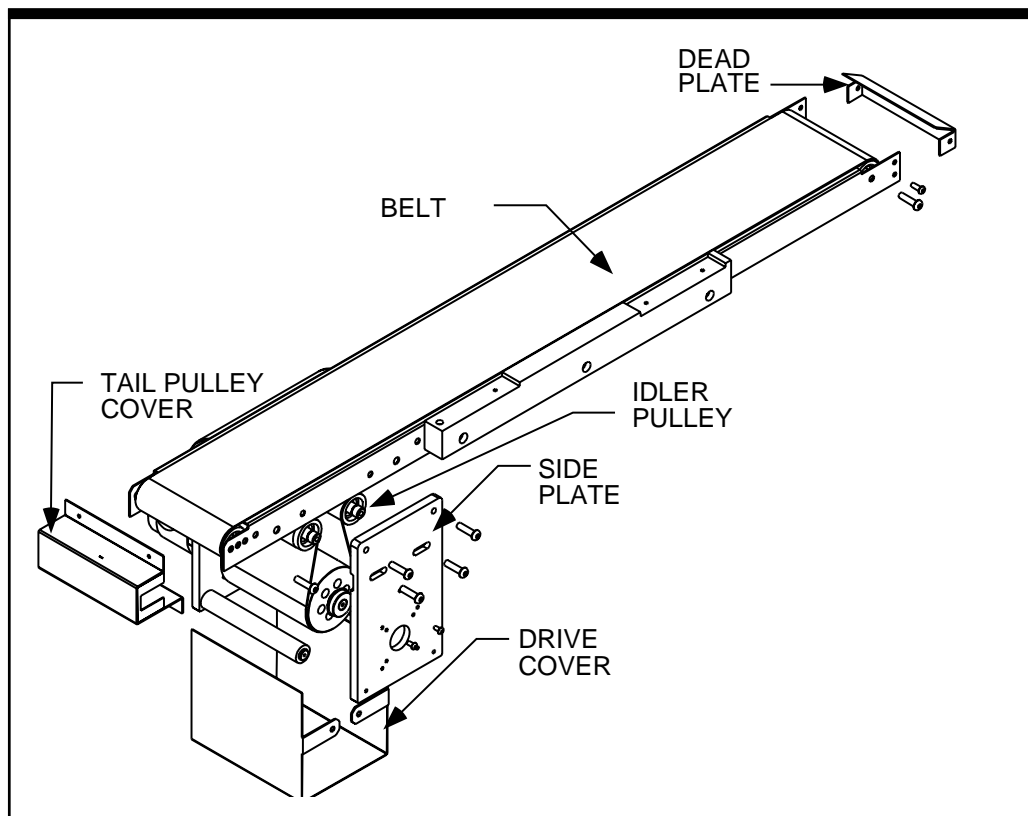

Figure 4-1. Conveyor Belt Replacement - Exploded View
Step 3—Remove the Load Box. Remove the (4) M8 screws that mount the load box. Swing load box out of position and rest on table or work bench. Loosen bolts and remove both end covers and the drive cover.
Step 4—Remove Drive Cover. Remove the drive cover from the conveyor (see *Figure 4-1*).
Step 13—Replace Belt. Slide replacement belt over the conveyor mount, and over the spools, threading the conveyor through the lower spools (see *Figure 4-1*).